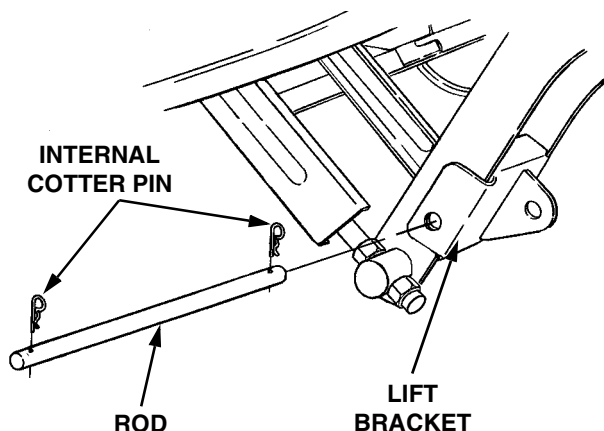

Figure 15
4. Remove the lift bracket (8) by removing one internal cotter pin (14) and sliding the rod (7) out of the implement lift links. See Figure 15.